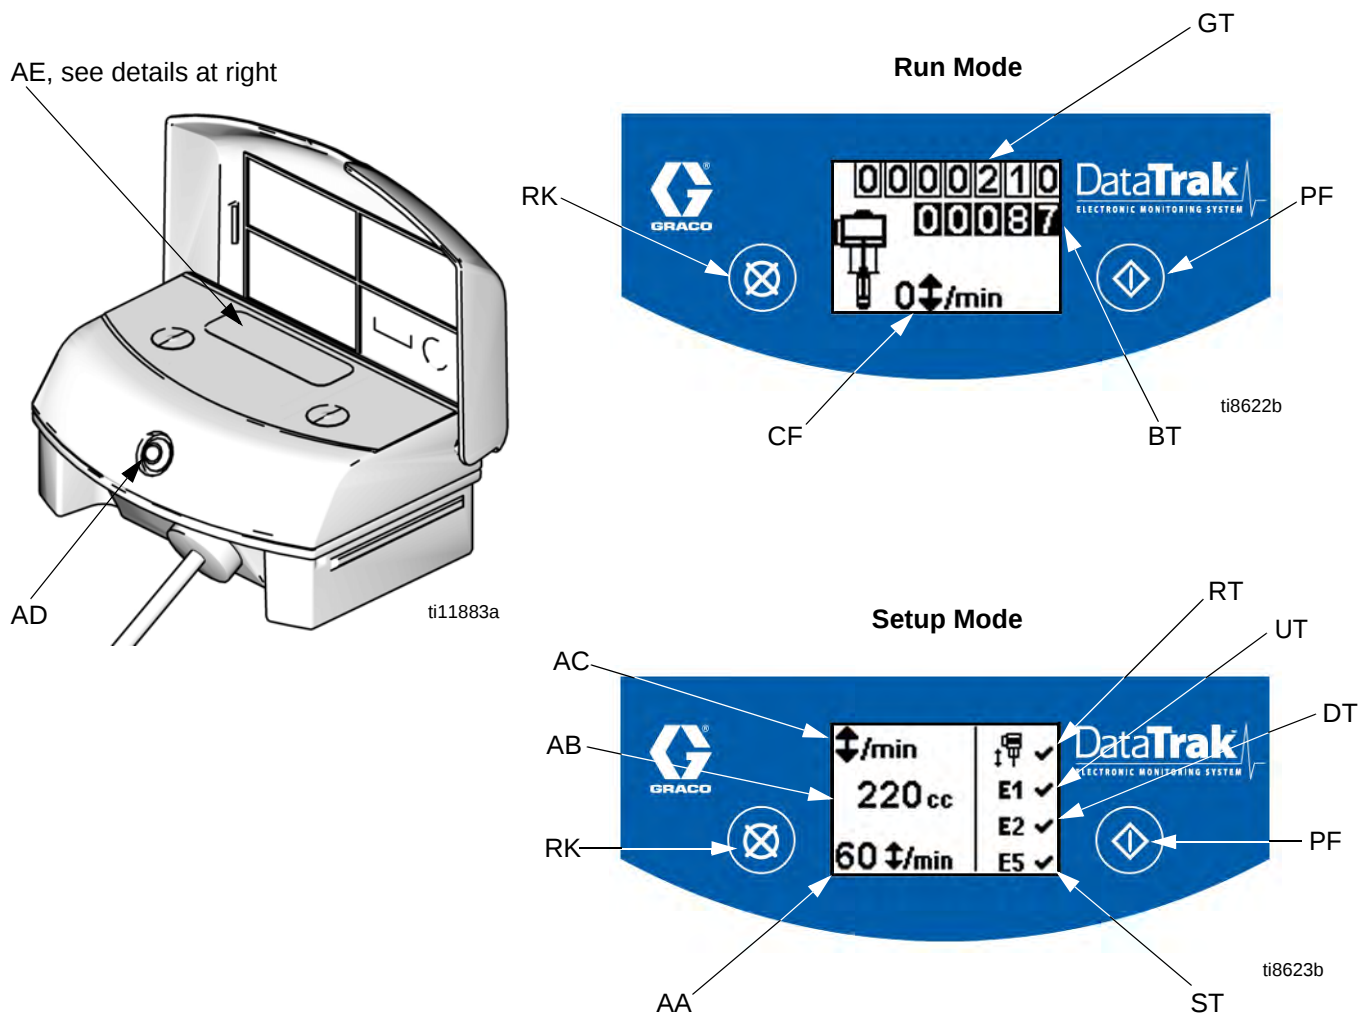

Fig. 1. DataTrak Controls and Indicators
Key for Fig. 1
1. See Fig. 1. Press and hold  for 5 seconds until Setup menu appears.
NOTE: When runaway, E1, E2, and E5 error options are enabled, a ✓ will appear on the setup screen. See Fig. 1.
1. See Fig. 1. If pump runaway occurs, the runaway solenoid will actuate, stopping the pump. The LED (AD) will flash and the display (AE) will indicate a runaway condition (see Table 1 on page 11). The display will cycle through six instruction screens.
2. Runaway Screens 1 and 2: To reset the runaway solenoid, close the master air valve (E). Wait for air to completely bleed off the air motor.
3. Runaway Screens 3 and 4: After the air is bled off, push the solenoid release button (J) down to reset the air valve. The button will pop back up when the air valve is repressurized.
5. Open master air valve (E) to restart pump.
To disable runaway monitoring, go to setup mode and set runaway value to 0 (zero) or toggle (RT) off  (see Fig. 1).
1. See Fig. 1. To enter Prime/Flush mode, press any key to wake up the display, then press . The Prime/Flush symbol will appear in the display and
See Fig. 1. The last digit of the batch totalizer (BT) represents tenths of gallons or liters. To reset the totalizer, press any key to wake up the display, then press and hold  for 3 seconds.
See Fig. 1. The display (AE) will turn off after 1 minute of inactivity in Run mode or 3 minutes in Setup mode. Press any key to wake up the display.
DataTrak can diagnose several problems with the pump. When the monitor detects a problem, the LED (AD, Fig. 1) will flash and a diagnostic code will appear on the display. See Table 1 on page 11.